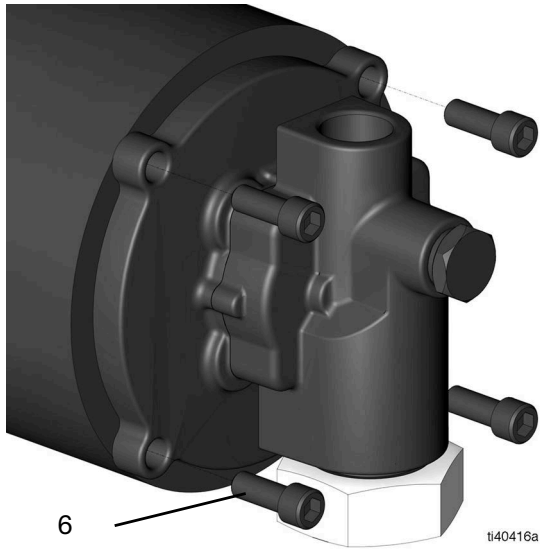

FIG. 7
- Remove the four Allen screws (6) using an 5/16 in. (8 mm) hex wrench (FIG. 7).
7. Place and tighten the four Allen screws (6) using an 5/15 in. (8 mm) hex wrench (Torque 20 ft-lbs, 27.1 N•m) (see FIG. 7).